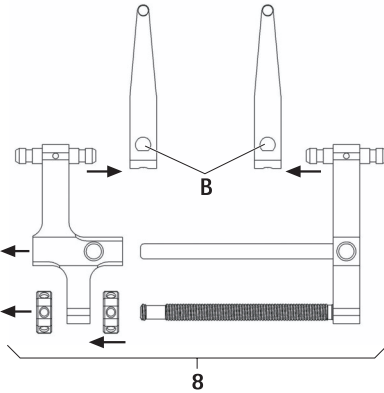

Fig. 4
- ▶ Disassemble distractor **8** including the distractor arms, see Fig. 4: Actuate slider **B** and remove distractor arm FW239R.